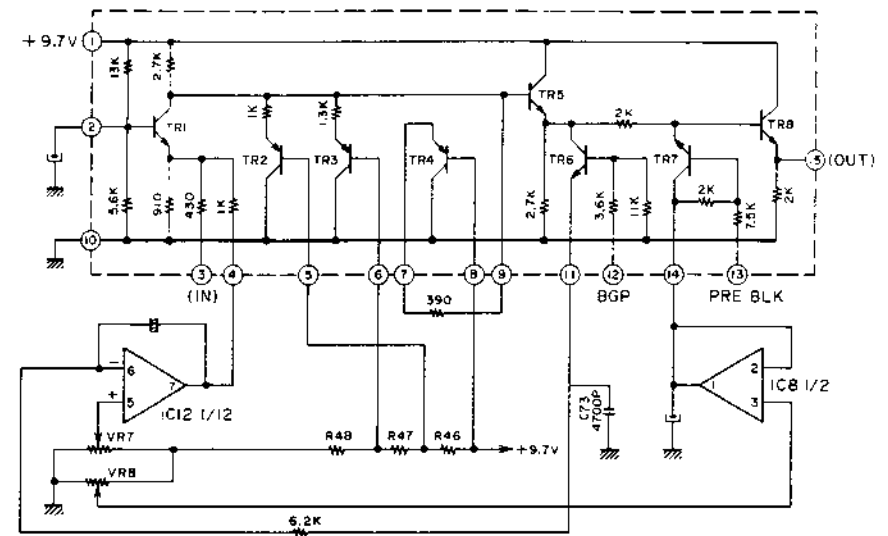
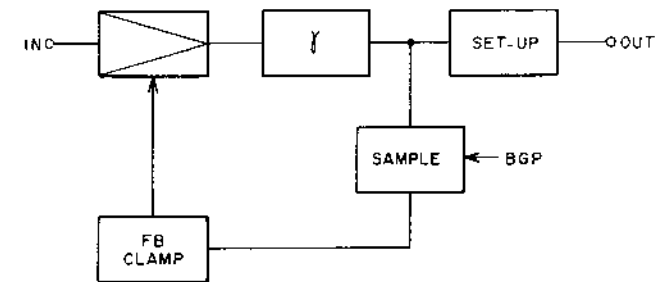
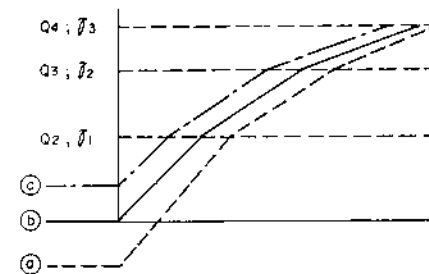

Fig. 24
Fig. 25
Fig. 26
The process circuit consists of IC7, IC12 and IC8 and its connections are shown in Fig. 24. Fig. 25 is the block diagram of the process circuit. The signal supplied to pin ③ is first passed, through the base graded amp (TR1) and then subjected to gamma correction with voltages made available by R46, R47 and R48 being applied to the bases of TR2, TR3 and TR4, respectively. (See Fig. 25) Subsequently, the signal taken out via EF (TR5) has its black mask portion sampled and held by TR6 (or the blanking portion sampled and held by CP-1 in the case of the red or blue channel), and the output is applied to IC12 (feedback clamp circuit) to keep constant the DC level of signals delivered from the base graded amp (TR1). The feature of this circuit is that the γ point can be shifted by changing the DC level. If the level of the black mask portion is raised due to change in temperature, dark current (or the DC fluctuation of the black portion in the case of R-ch or B-ch) increases. This causes potential at IC12's pin ⑥ to increase, and the level at pin ⑦ to be lowered, which in turn lowers the DC level of both emitter and collector (TR1), thereby correcting the dark current. In addition, if the DC level is varied by VR7 as indicated by ①, ② and ③ in Fig. 26, the γ point will be shifted as illustrated. Note that at ①, a slight increase in level causes " γ_1 " to operate immediately, whereas at ②, only a significant increase in level causes " γ_1 " to operate. The γ -corrected signal is subjected to BLK in TR7 and then to SET-UP before being taken out as VC-4 output.